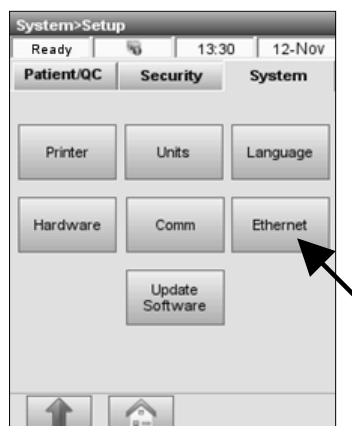

Fig. 3-93 Ethernet
2. In the **<System Setup>** menu, press the **<System>** tab and then **<Ethernet>** (Fig. 3-93).